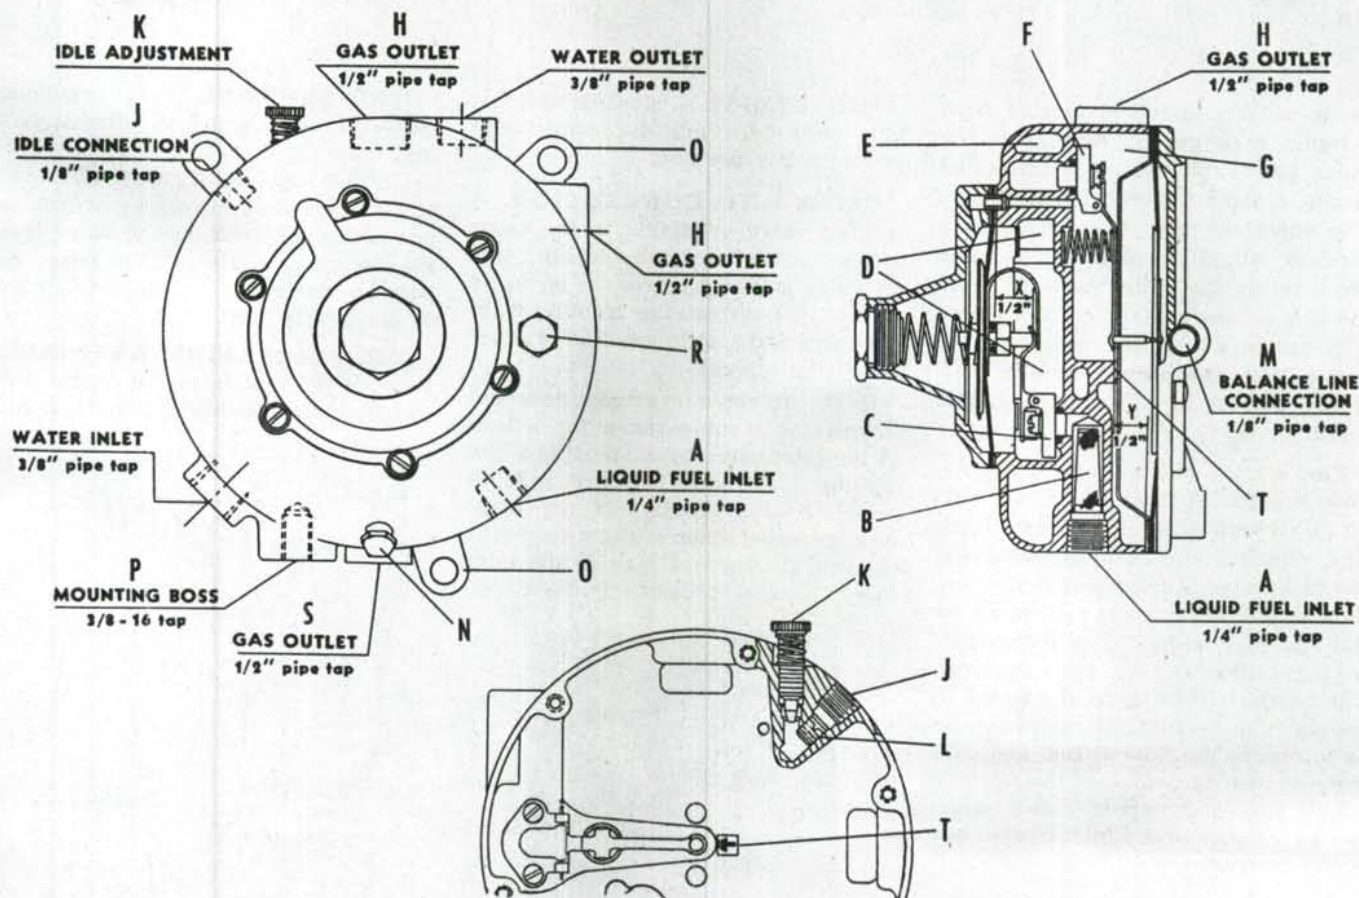

Fig. AC51—Model W Ensign LPG regulator used on the WD45 engine—assembly view.
The LP-gas system consists of an Ensign model Kg1, which is a straight LP-gas carburetor Fig. AC49A, or a model Kg1, Fig. AC49B, which is a combination gasoline and LP-gas carburetor. Both carburetor models are fitted with an Ensign model 3069 dry gas economizer, Fig. AC50. The vaporizer and pressure regulating device, Fig. AC51, is an Ensign model W unit. Fuel is filtered by a model 6259 Ensign filter, Fig. AC50A.
111C. IDLE MIXTURE SCREW. With the choke open, engine warm and idle stop screw set, adjust idle mixture screw (K—Fig. AC51) which is located on regulator until best idle is obtained. An average adjustment is $\frac{3}{4}$ of a turn open.
114. HOW IT OPERATES. In the Ensign model W regulator, fuel from the supply tank enters the regulating unit (A—Fig. AC51) at a tank pressure of 25-80 psi and is reduced from tank pressure to approximately 4 psi at the inlet valve (C) after passing through the strainer (B). Flow through the inlet valve is controlled by the adjacent spring and diaphragm. When the liquid fuel enters the vaporizing chamber (D) via the valve (C) it ex-
If the foregoing remedy does not correct the trouble check for a leak at the inlet valve by connecting a low reading (0-20 psi) pressure gage at point (R—Fig. AC51). If the pressure increases after a warm engine is stopped, it proves a leak in the inlet valve. Normal pressure is 3½-5 psi.
Before reassembling the unit, note dimension (X—Fig. AC51) which is measured from the face on the high